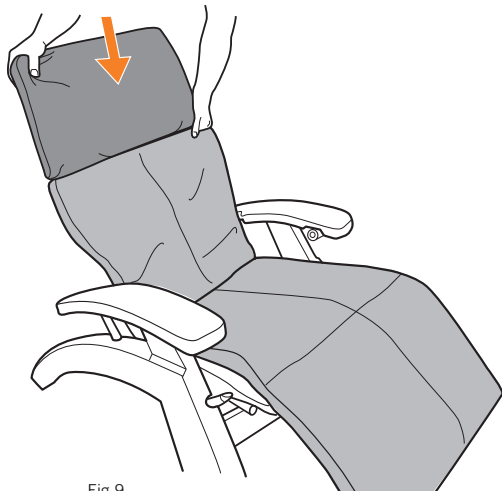

Fig.9
2. Slide the headrest pad over the head rest frame (Fig.9).